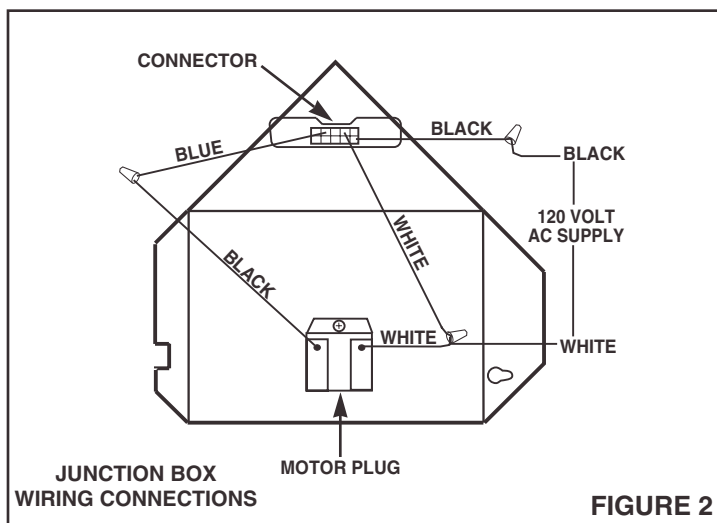

FIGURE 2
Refer Figure 2.
3. Referencing figure 2 connect the house power wire (black) to the connector black wire. Connect the house neutral wire (white) to both the connector and motor plug wires (white). Connect the ground wire to the green ground screw. Connect the blue connector wire to the black motor plug wire.
Refer to Figure 2 for wiring and Figure 1 for ducting.